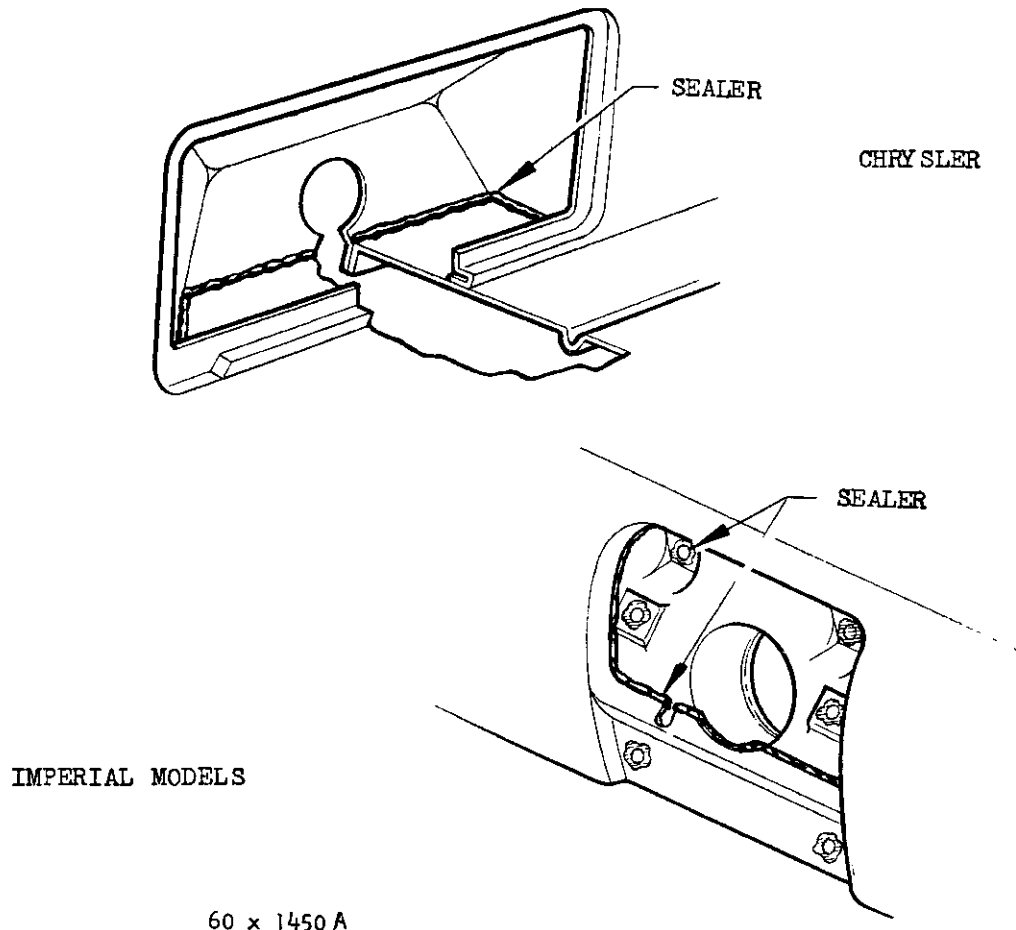

Fig. 32—Sealing the Fuel Filler Housing
**32. HOUSING—FUEL FILLER (Fig. 32)**